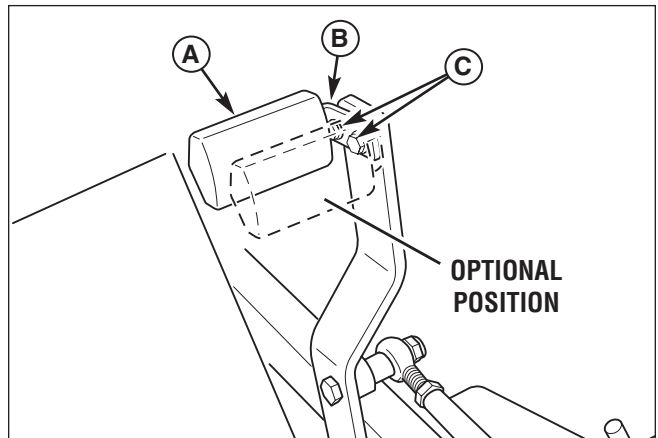

Figure 36. Foot Pedal Adjustment
1. Remove the foot pedal (A, Figure 36) from the pedal mount tab (B).
2. Remove the pedal mount hardware (C) and rotate the tab 180 degrees.
4. Reinstall the foot pedal on the pedal mount tab in the proper orientation as shown in Figure 36.